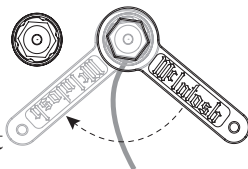

Figure 4— Tightening Input Post
4. Place the supplied McIntosh wrench over the end of the Input Terminal and rotate it one quarter of a turn (90°) to secure the Loudspeaker cable connection. **Do not over tighten.** (*Figure 4*)